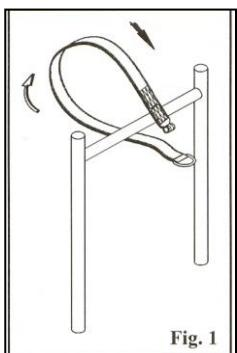

Fig. 1
**Step 2:** Loop the anchorage sling twice or thrice depending upon how much its length allows in such a way that finally the loop is passed through the D-Ring of the sling at the other end as shown in figure 1, 2 & 3 in the same sequence. Now tighten the loops by strongly pulling the free end.